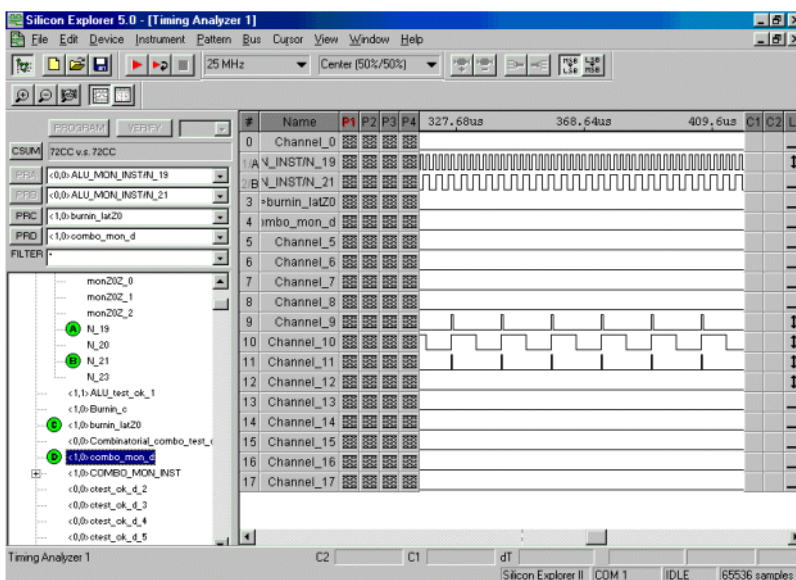

Figure 2-1. Silicon Explore Window with an AX Probe File
The Explorer software consists of two components, the Command module and the Analyze module. The Command module of the Explore software lists all the observable nets in the FPGA. Use the Command module to verify that you programmed the correct design in the FPGA. The Analyze module is an 18-channel logic analyzer that automatically displays the signals for both probe outputs (and up to 16 additional signals) on the target system. PRC and PRD are not displayed for other device families. Figure 2-1 shows the Silicon Explorer with an Axcelerator probe file loaded.
1. **Select the desired signal from the tree by clicking the net name (see Figure 2-1).** You can use the filter box to search nets quickly. Use multiple wildcard characters (“*”) to restrict your search.